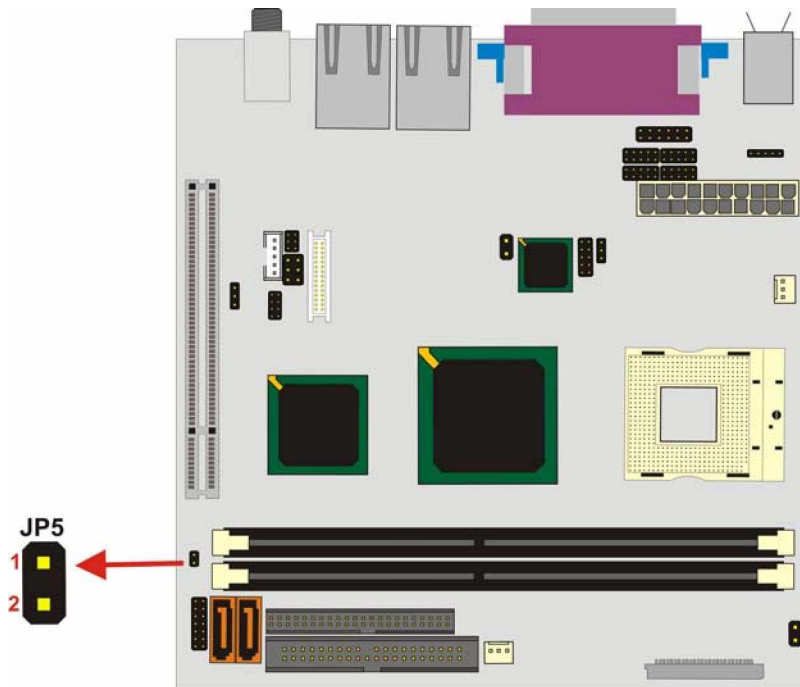

Figure 3-29: JP3 Pinout Locations
- Jumper Location:** See Figure 3-29
The LCD Voltage Setup jumper location is shown in **Figure 3-29** below.
Jumper Location: See Figure 3-29
The COM2 Setup jumper location is shown in **Figure 3-29** below.